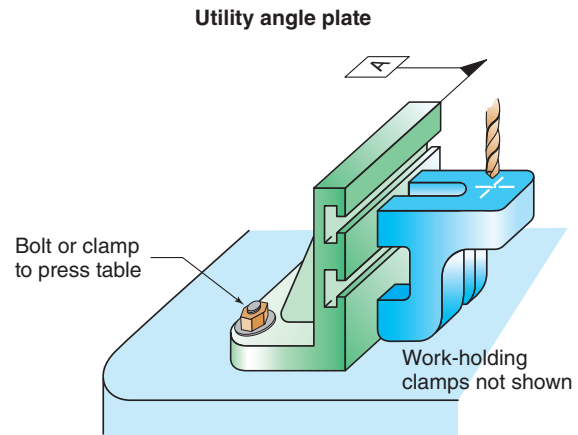
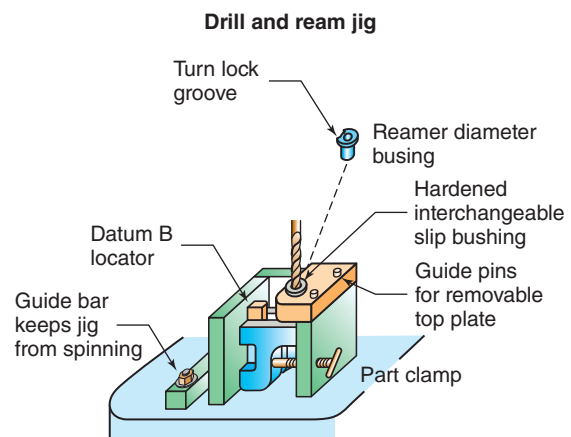

Figure 10-40 Drilling parallel to a datum or surface.
Figure 10-41 A drill jig holds the work and guides the drill.
When holes or other cuts must be parallel to a datum, or when work is difficult to clamp in a vise or directly to the drill press table (Fig. 10-40), one solution is the shop grade, right-angle plate. Recall that these utility plates are different from the layout version that are not to be used during machining. They are heavy-duty, work-holding plates with
holes for bolts or tee slots for clamping work. The clamps we've discussed could be added to Fig. 10-40 to firmly hold the part on the plate.
In manufacturing, the word **jig** means a holding tool that secures parts that are otherwise difficult to hold for machining, welding, or assembly. Jigs ensure accurate location of the workpiece on the machine and accuracy of the operations to be performed. They also make it faster to exchange one part for the next during production. In Fig. 10-41, the top of the jig slips off two pins, to exchange parts. This jig locates the face of the part on Datum A, similarly to the angle plate setup of Fig. 10-40. By using the left-right position of the part in the jig, Datum B is obtained by slipping the central slot in the part over a locator tab in the jig. When in position, a clamp is screwed against the workpiece. Once in position, the hardened slip bushing ensures that the drill will not wander.
- *Custom-made* tools are specifically built for a single part or perhaps to hold a family of very similar parts. Figure 10-41 is a custom-made jig consisting of four steel plates fastened together.
- *Universal kits* enable the machinist to make up a jig using components. These are sometimes called box jigs, as they start with several sizes of square boxes. A fourth plate on the near side of Fig. 10-41 would simulate a box jig. Drilling through the work.